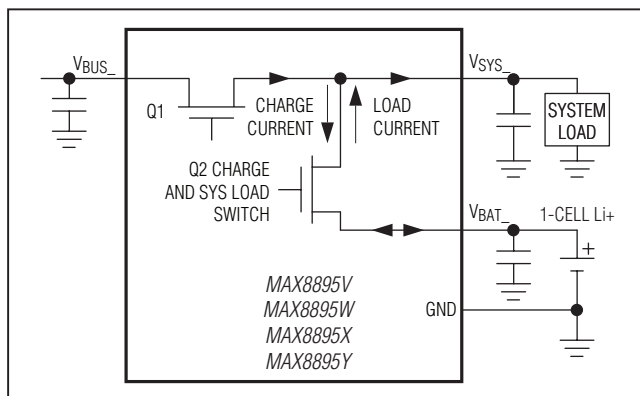

Figure 19. Smart Power Selector Block Diagram
The Smart Power Selector seamlessly distributes power between the external VBUS\_ input, the battery (VBAT\_), and the system load (VSY\_). See Figure 19. The Smart Power Selector basic functions are:
An internal 55mΩ (typ) MOSFET connects VSY\_ to VBAT\_ (Q2, Figure 19) when no voltage source is available at VBUS\_ and VBAT\_ is above the battery UVLO threshold. When an external source is detected at VBUS\_, this switch controls the charging of VBAT\_ and VSY\_ is powered from the valid input source through the input current limiter.
- **Input Voltage Limiting:** If the VBUS\_ input voltage is above the overvoltage threshold (VBUS\_OVP), the MAX8895\_ enters overvoltage lockout (OVL). OVL protects the MAX8895\_ and downstream circuitry from high-voltage stress up to 16V at VBUS\_. In OVL, VINT\_3V3 remains on, the input switch that sees overvoltage (Q1, Figure 19) opens, FLT is pulled low, and UOK, CHG, DET\_DONE, and PREQ become high-impedance. In OVL, the charger turns off. The VBAT\_ - VSY\_ switch (Q2, Figure 19) closes, allowing the battery to power VSY\_. VBUS\_ is also invalid if it is less than VBAT\_, or less than the USB undervoltage threshold (VBUS\_UVLO\_F). With an invalid input voltage, VSY\_ connects to BAT\_ through a 55mΩ (typ) switch (Q2, Figure 19).